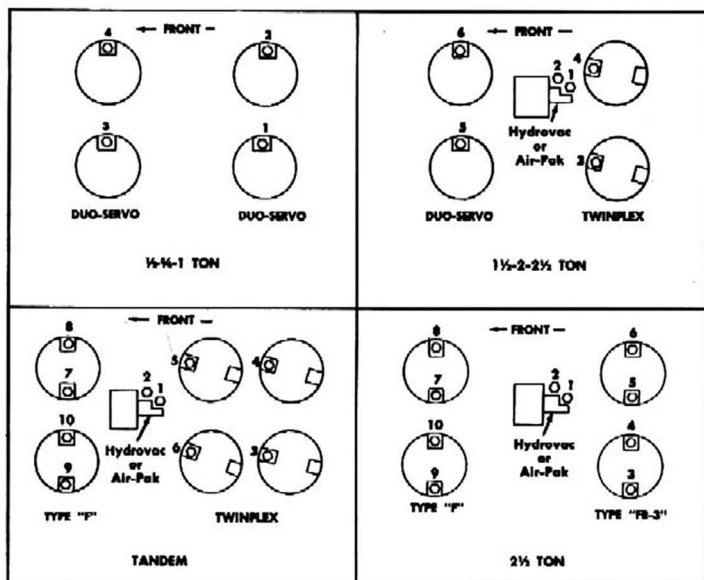

Fig. 49—Bleeding Sequence
Brake system should be bled in a definite sequence to obtain best results. Figure 49 illustrates various combinations of brake equipment used, with bleeder valves numbered in the sequence in which they should be bled.
3. First bleed Hydrovac or Air-Pak. Both units have two bleeder valves and must be bled in sequence shown in Figure 49. Slip end of bleeder hose over bleeder valve No. 1, on slave cylinder, and place other end in a glass jar containing enough hydraulic brake fluid to cover end of hose. Open bleeder valve with wrench, at least $\frac{1}{2}$ turn, and observe flow of fluid from hose. Close valve as soon as bubbles stop and fluid flows in a solid stream. Repeat at bleeder valve No. 2.
5. On all vehicles, bleed wheel cylinders at each wheel in sequence shown in Figure 49, in the following manner. Connect one end of bleeder tube to wheel cylinder and place other end in a glass jar. Open bleeder valve by turning valve counter-clockwise approximately $\frac{3}{4}$ of a turn. Bleed until all bubbles disappear and fluid flows in a solid stream. Close bleeder valve.
3. In sequence shown in Figure 49, bleed wheel cylinder in the following manner. Remove wheel cylinder bleeder valve screw and screw bleeder tube into bleeder valve. Place other end of tube in a container having sufficient fluid to cover end of tube.